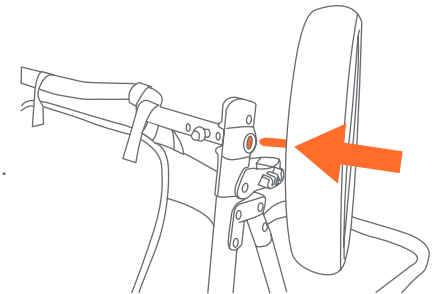

Fig. 5
- Press the rear wheel posts into the rear frame hub until it clicks into place (Fig. 5).